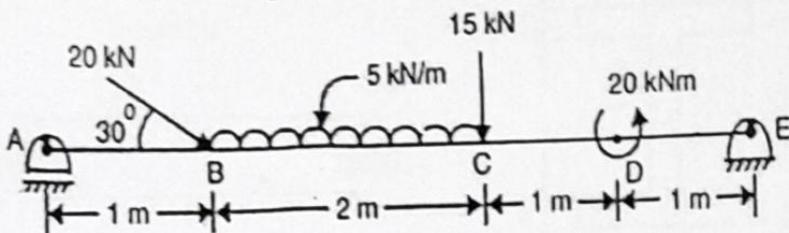

Figure 3
- b) Draw shear force and bending moment diagrams for the beam shown in figure 3. 10M